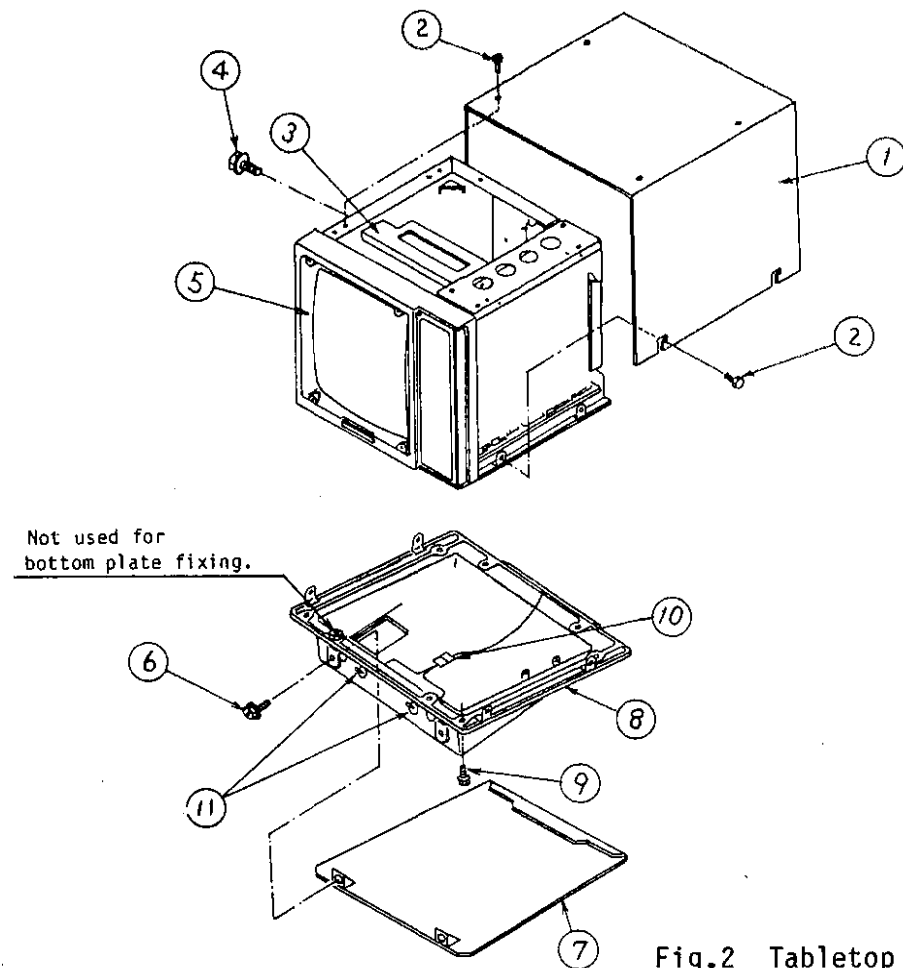

Fig.2 Tabletop Mount
- 1) Take off the top cover ① by loosening eight M4 x 10 screws ② . See Fig.2.
- 2) Remove the fixing plate ③ by loosening four M4 x 8 washerhead screws ④ .
- 3) Loosen two M8 x 40 hex. bolts ⑥ and remove the mounting cradle ⑦ from the ramp base ⑧ .
- 4) Take off the ramp base ⑧ from the display main body ⑤ after removing seven M6 x 16 hex. bolts ⑨ and disconnecting a flying connector ⑩ .
- 5) Loosen the lock nuts of the toggle switches ⑪ (POWER & SCANNER) on the ramp base ⑧ and turn them upside down, and secure the lock nuts.